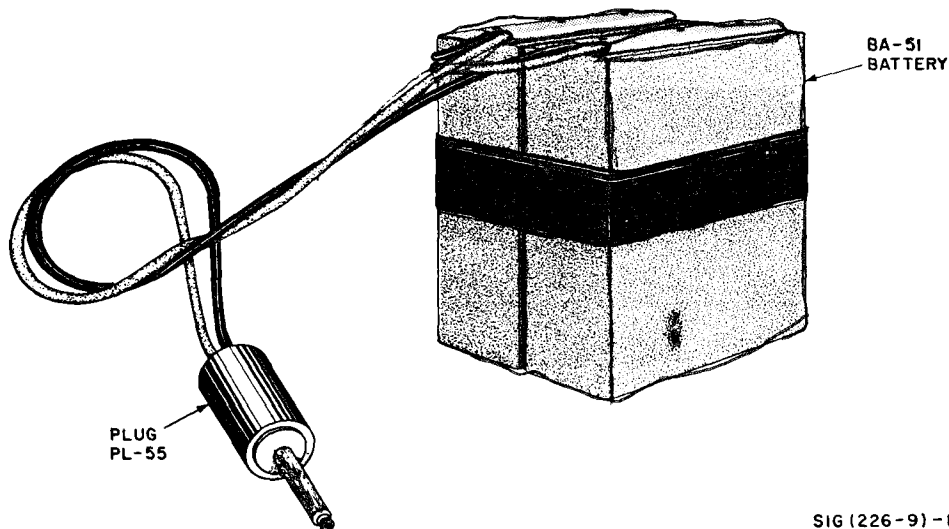

Figure 1. Field emergency dosimeter charger.
1. Scope. a. This bulletin contains instructions for making and using a field emergency dosimeter charger (fig. 1) for Radiacmeters IM-93/UD and IM-147/PD (usually called dosimeters).